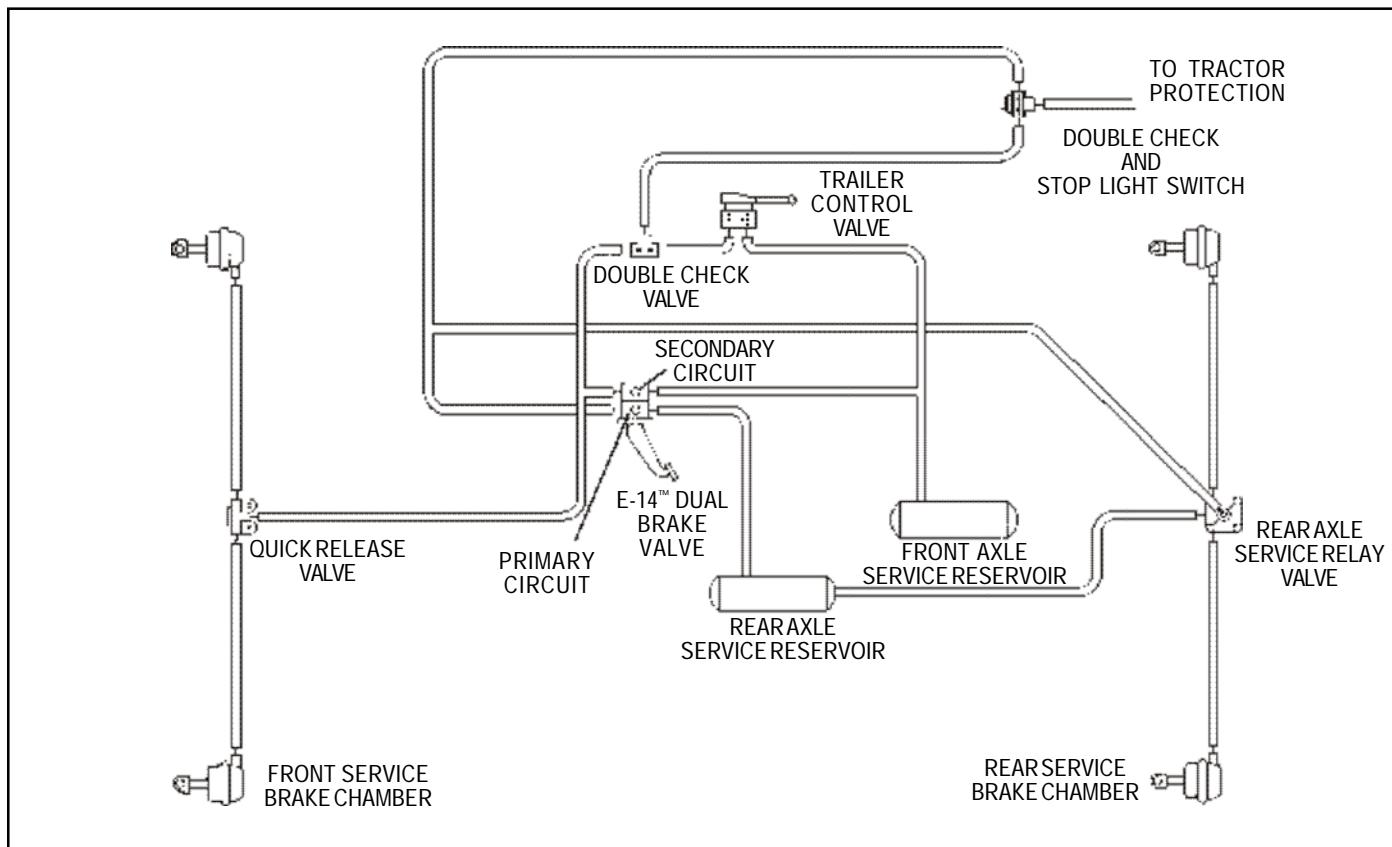

FIGURE 2 - TYPICAL PIPING SCHEMATIC
2. On valves that have a manifold on the engine compartment side, remove the bolts that secure the manifold to the valve. Separate the valve and manifold and remove the sealing rings and adapter sleeves. (See Figure 2.)
3. Remove the four cap screws(16) that secure the primary body to the secondary body. Separate the two body halves and remove and discard o-ring(17).
4. Pull secondary piston(18) out of the primary body and remove and discard o-rings(19 & 20).
5. Remove and discard snap ring(10) from the secondary body while manually holding and compressing valve seat(11) in place.
7. Remove and discard valve assembly(13) along with its o-ring(15) from the secondary body. Remove the valve assembly return spring(14).
8. Carefully remove and discard exhaust diaphragm screw(24), diaphragm washer(25), diaphragm(26), and diaphragm retainer(27) from the secondary body. **NOTE:** Some E-14™ brake valves have a threaded exhaust port instead of items 24-27.
9. Using light force, push piston(2) into the primary body until piston retaining ring(1) is fully visible. Remove piston retaining ring(1), taking care not to damage the piston bore in the body.
10. Gently tap the primary body on a soft surface to remove piston(2). Remove and discard o-rings(3 & 5) and both wear rings(4) from piston(2).
11. Place the piston on a flat surface. Using finger force, depress and hold spring retainer(7), then remove and discard retaining ring(6) from piston(2).
12. Gently release spring retainer(7), allowing it to rise out of the piston. Remove spring retainer(7) and graduating spring(8) from piston(2).
4. If primary piston(2) is reused, make certain that vents "A & B" are open and free of obstructions. (See Figure 2.)
5. Make certain vent "C" is open in the primary body of the valve. (See Figure 2.)